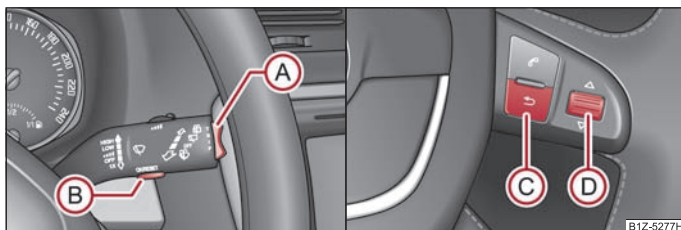

Fig. 20 Information display: Controls on the windshield wiper lever/controls on the multifunction steering wheel
- You can activate the **Main Menu** by pressing the rocker switch **A** ⇒ fig. 20 for more than 1 second.
- You can activate the **Main menu** by pressing the rocker switch **C** ⇒ fig. 20 for more than 1 second.